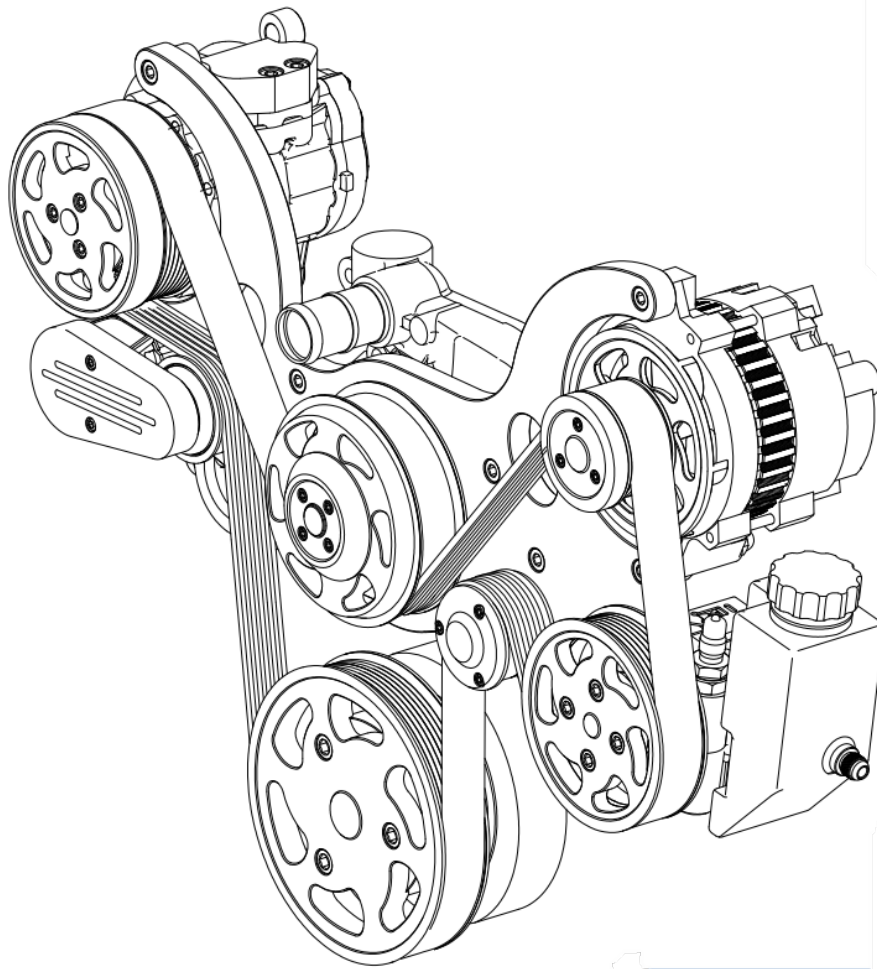

Figure 9. Belt routing diagram.
12. Install the belt following the routing diagram. The tensioner will need to be pushed down to allow enough slack for the belt to roll on. Refer to Figure 9.